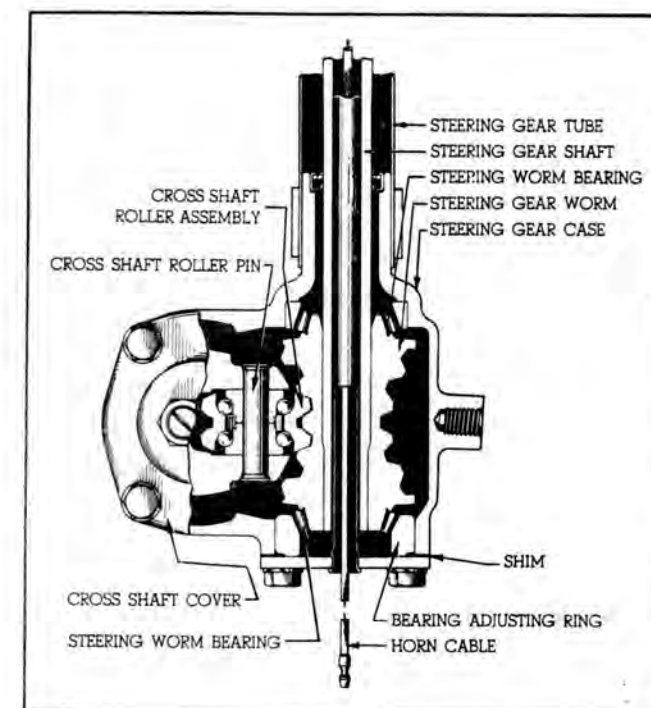

Fig. No. 1
2. Shim adjustment for gear lash. For this adjustment use shim as shown in Fig. No. 1.